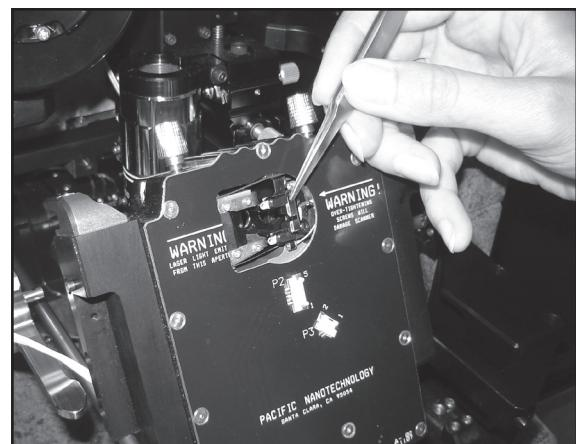

Figure 2.17: Mounted Probe
- Use tweezers to push the metal plate flush against the “L” as shown in Figure 2.17.